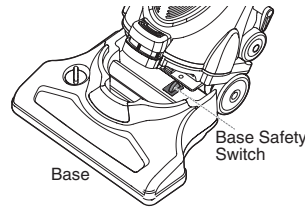

Fig. 10
- Caution:** The headlight and brush does not come on when in the upright position even if the switch is on. You must release the handle for the brushroll to begin spinning. (Fig. 10)